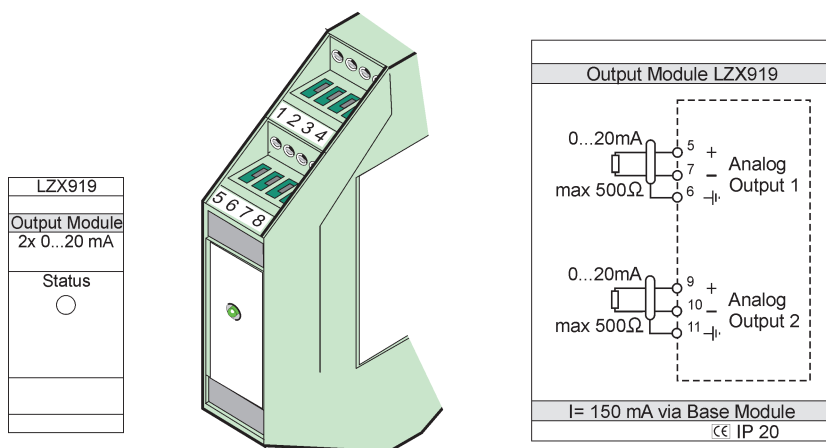

Figure 78 External output module
3. Make the appropriate connections as shown in Figure 78 and Table 51.